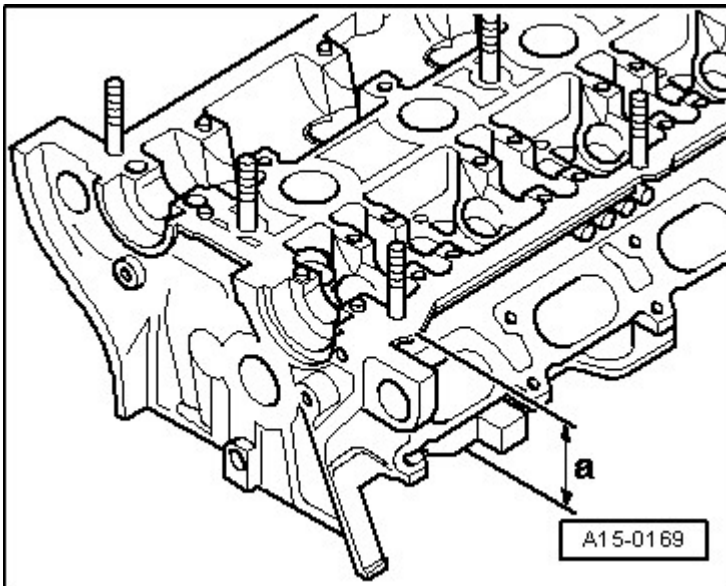

Fig. 9: Identifying Cylinder Head Refacing Dimension
- Reworking dimension, refer to **Fig. 9**